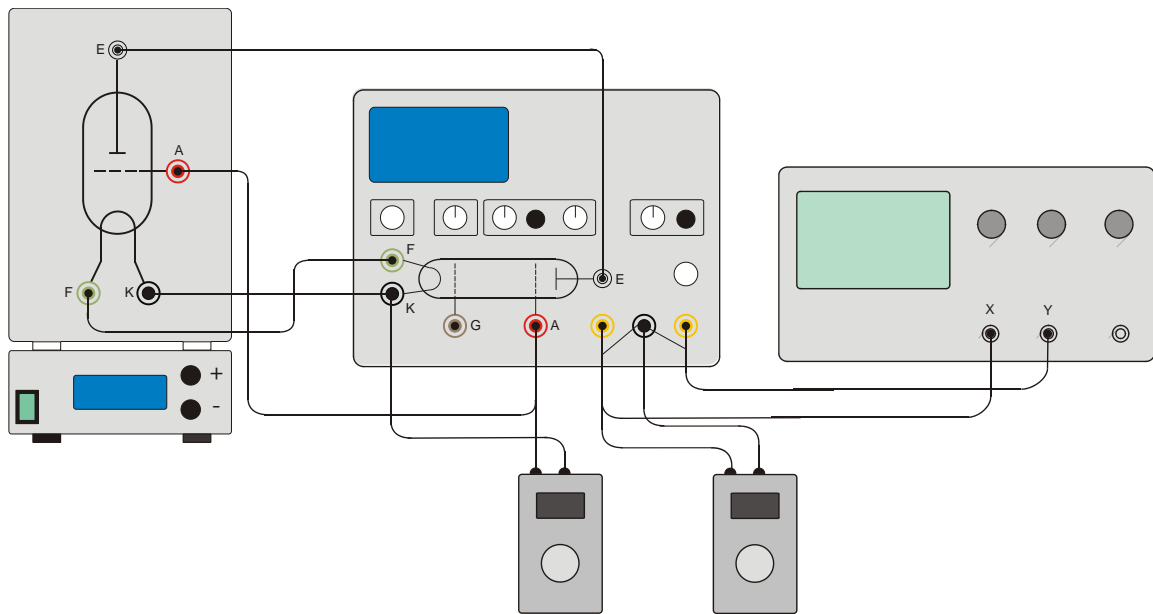

Fig. 3 Experiment set-up for Franck-Hertz tube with 2 digital voltmeters
- Connect a digital voltmeter between the signal output (U_X) and the ground socket (refer to fig. 3).